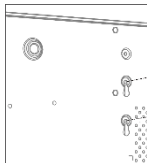

Figure 2-6 Fix HDD
Step 3 Match HDD screw threads with the reserved holes on the device bottom, and fix HDD with screws. Refer to Figure 2-6.